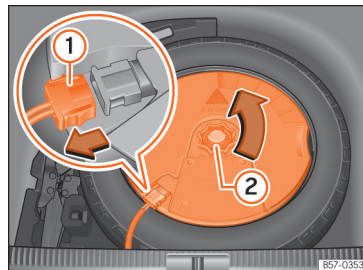

Fig. 232 In the luggage compartment: remove the subwoofer.
- Disconnect the *subwoofer* »» Fig. 232 ① speaker cable.
- Turn the securing wheel in an anti-clockwise direction »» Fig. 232 ②.